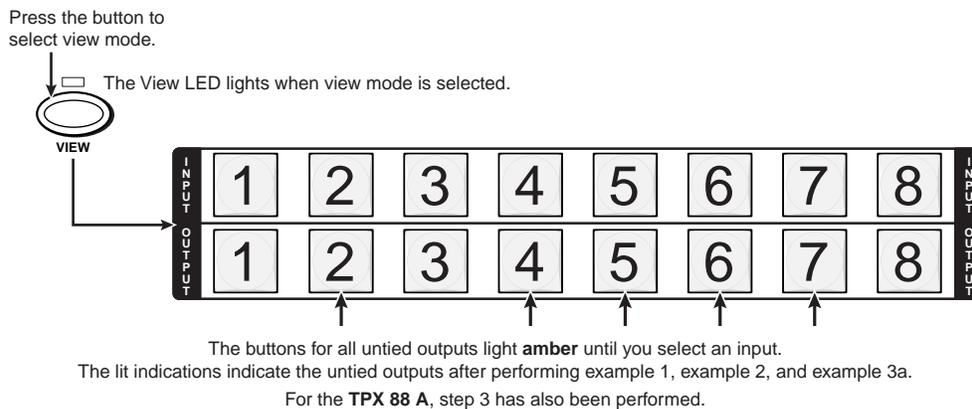

Figure 3-20 — Select view mode
2. Press and release the View button to enter view-only mode. The View LED lights (figure 3-20).
3. To select both video and audio for viewing, if necessary, press and release the I/O button until the LEDs light (figure 3-21). Observe the indications shown in figure 3-20.